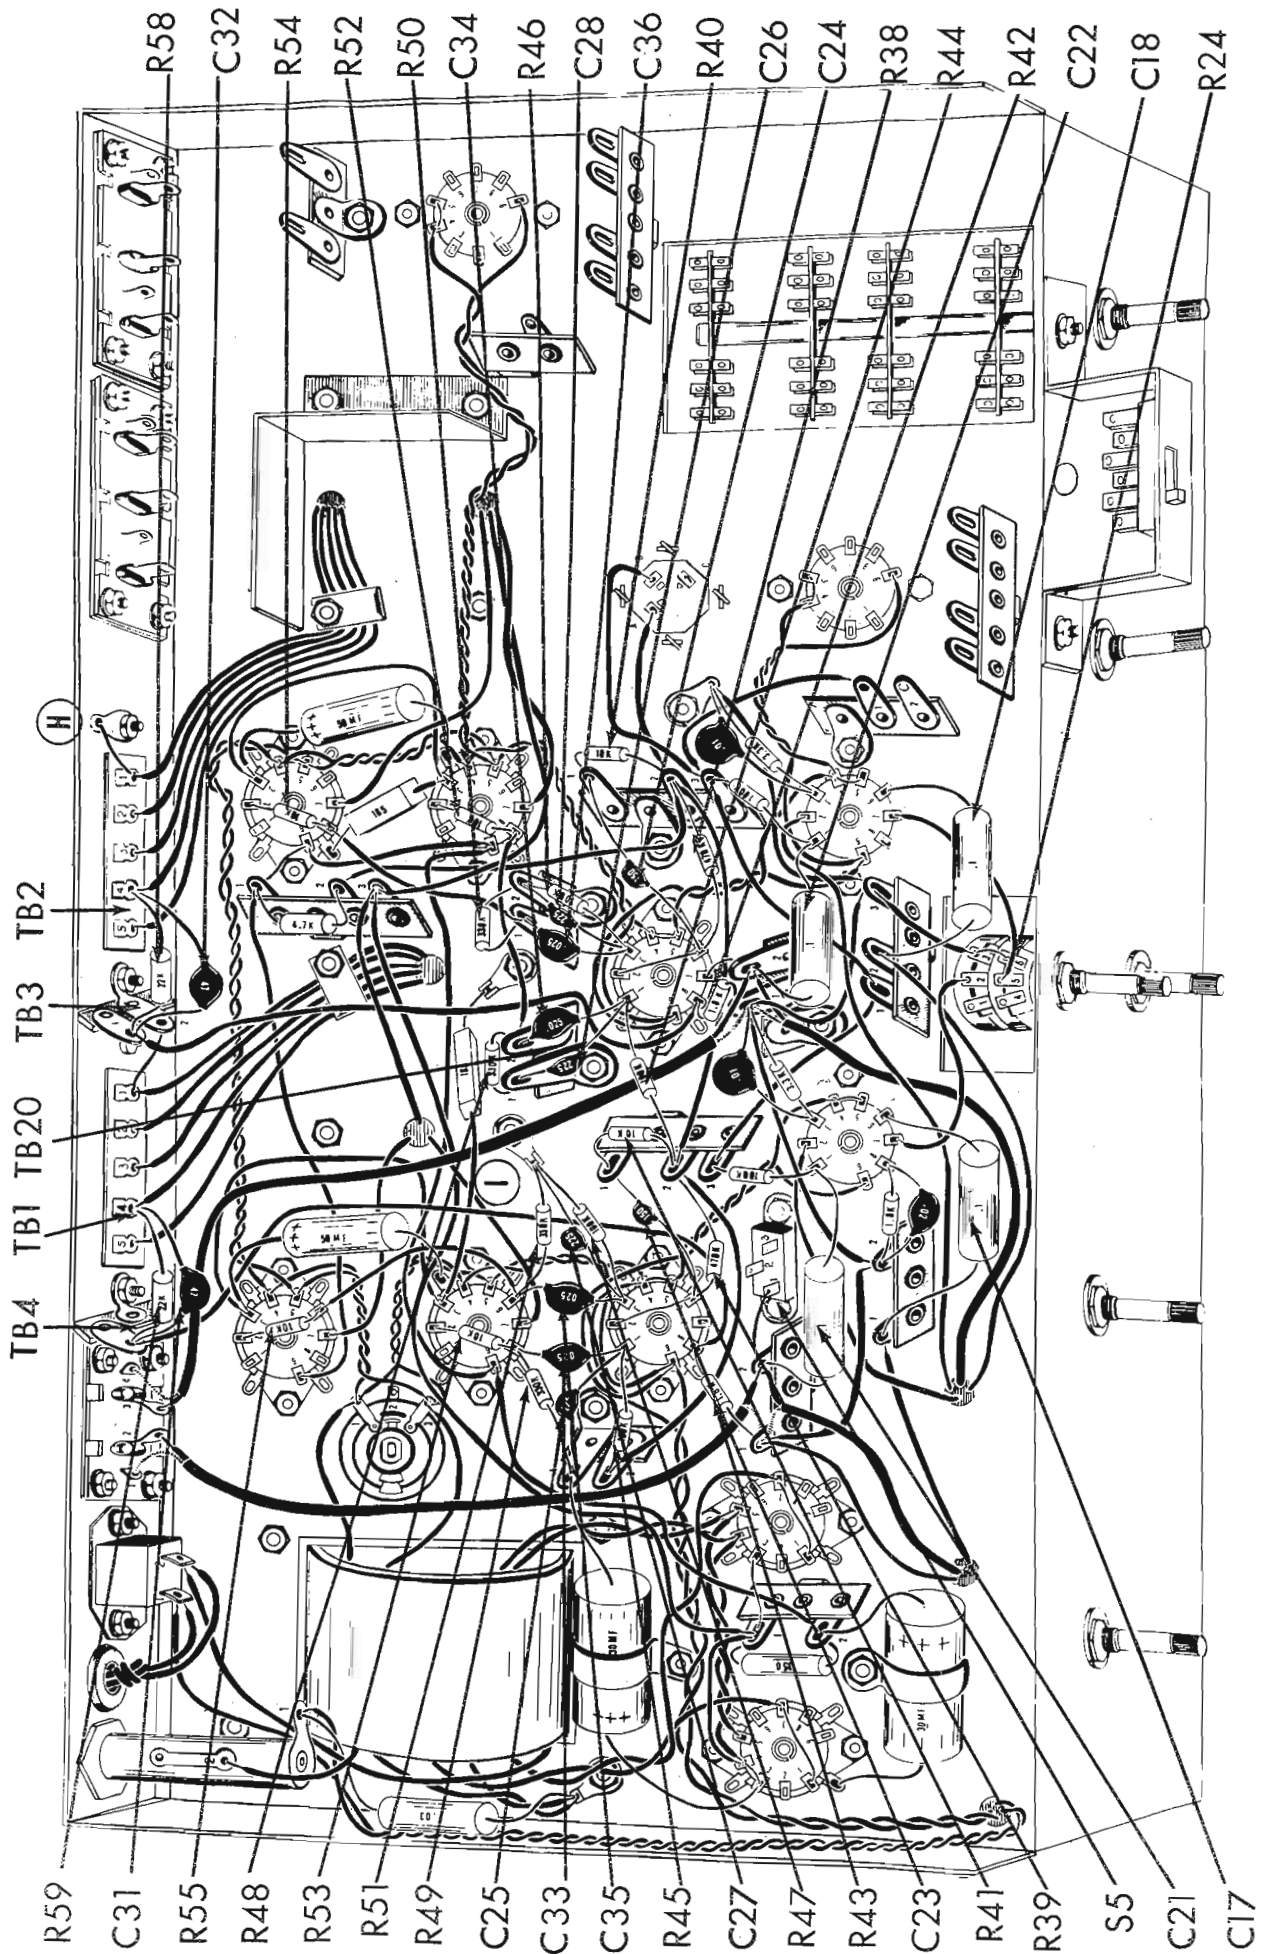

Fig. 9
1. (✓) Fig. 9. Connect a 2 1/2" piece of green wire from R24-5 (S1) to XV4-7 (S1).
2. (✓) Fig. 9. Connect a 9" piece of black wire from XV5-8 (C) to TB4 (C).
3. (✓) Fig. 9. Connect a 9" piece of black wire from XV6-8 (C) to TB3-1 (C).
4. (✓) Fig. 9. Cut all leads on two 47 mmf, 10% disc capacitors, C31 and C32, to 3/4". Connect C32 from TB2-4 (C) to TB3-1 (C) and the other capacitor, C31, from TB1-4 (C) to TB4 (C). Each lead is to be covered with a 1/2" piece of spaghetti.
5. (✓) Fig. 9. Connect a 1" piece of bare wire from TB1-1 (S2) to TB3-2 (S1).
6. (✓) Fig. 9. Connect a 1" piece of bare wire from TB2-1 (S2) to ground lug "H" (S1).
7. (✓) Fig. 9. Cut all leads on the two 22KΩ (red, red, orange, gold) 5% resistors, R58 and R59, to 3/4". Connect R58 from TB2-4 (S3) to TB3-1 (S3) and R59 from TB1-4 (S3) to TB4 (S3). Each lead is to be covered with a 1/2" piece of spaghetti.
8. (✓) Fig. 9. Cut all leads on the six 10KΩ (brown, black, orange, silver) resistors, R40, R41, R52, R53, R54, and R55, to 1/2". Connect R55 from XV8-6 (S2) to XV8-2 (S1). Connect R53 resistor from XV7-8 (C) to XV7-2 (S1). Connect R54 from XV10-8 (S2) to XV10-2 (S1). Connect R52 from XV9-8 (C) to XV9-2 (S1). Connect R41 from TB9-1 (C) to TB9-2 (C). Connect R40 from TB18-1 (C) to TB18-2 (C).
9. (✓) Fig. 9. Connect a 3" piece of grey wire from TB20-2 (C) to XV9-8 (S2).
10. (✓) Fig. 9. Cut all leads on the two 330KΩ (orange, orange, yellow, silver) resistors, R48 and R50 to 1/2". Connect R50 from TB19-2 (C) to TB19-1 (C). Connect R48 from TB20-1 (C) to TB20-2 (C).
11. (✓) Fig. 9. Cut all leads on the two 330KΩ (orange, orange, yellow, silver) resistors, R49 and R51 to 3/4". Connect R49 from TB10-1 (C) to XV7-8 (C). Connect R51 from XV7-6 (C) to ground lug "I" (C).
12. (✓) Fig. 9. Cut all leads on the four .025 mfd (25K or 25,000 mmf) disc capacitors, C33, C34, C35, and C36, to 3/4". Connect C33 from XV5-1 (C) to XV7-8 (S3). Connect C35 from XV5-3 (C) to XV7-6 (S3). Connect C34 from XV6-1 (C) to TB20-2 (S3). Connect C36 from XV6-3 (C) to TB19-1 (S3).
13. (✓) Fig. 9. Cut all leads on the two 100KΩ (brown, black, yellow, gold) 5% resistors, R45 and R46, to 1/2". Connect R45 from XV5-1 (C) to TB10-2 (S2). Connect R46 from XV6-3 (C) to TB19-2 (C).
14. (✓) Fig. 9. Cut all leads on the two 100KΩ (brown, black, yellow, gold) 5% resistors, R44 and R47, to 3/4". Connect R47 from XV5-3 (C) to ground lug "I" (C). Connect R44 from XV6-1 (C) to TB9-2 (C).
15. (✓) Fig. 9. Cut all leads on the two 225 mmf disc capacitors, C25 and C28 to 3/4". Connect C25 from XV5-1 (S3) to TB10-1 (S3). Connect C28 from XV6-3 (S3) to TB19-2 (S3).
16. (✓) Fig. 9. Cut all leads on the two 225 mmf disc capacitors, C26 and C27, to 1". Connect C27 from XV5-3 (S3) to ground lug "I" (S3). Connect C26 from XV6-1 (S3) to TB20-1 (S2).
17. (✓) Fig. 9. Cut all leads on two 1.8KΩ (brown, grey, red, gold) 5% resistors, R42 and R43, to 3/4". Connect R43 from XV5-8 (S2) to TB7-1 (S5). Connect R42 from XV6-8 (S2) to TB21-1 (C).
18. (✓) Fig. 9. Cut all leads on two 470KΩ (yellow, violet, yellow, silver) resistors, R38 and R39, to 3/4". Connect R39 from XV5-6 (C) to TB9-2 (S5). Connect R38 from XV6-6 (C) to TB18-2 (S5).
19. (✓) Fig. 9. Cut all leads on two 150 mmf disc capacitors, C23 and C24, to 1". Connect C23 from XV5-6 (C) to TB9-1 (S2). Connect C24 from XV6-6 (C) to TB18-1 (S2).
20. (✓) Fig. 9. Connect a 1 1/4" piece of bare wire from TB7-2 (C) to S5-1 (S1).
21. (✓) Fig. 9. Connect a 3/4" piece of bare wire from TB21-2 (C) to XV6-7 (S1).
22. (✓) Fig. 9. Connect a 1" piece of bare wire from XV5-2 (S1) to XV5-6 (S3).
23. (✓) Fig. 9. Cut a 1" piece of bare wire from XV6-2 (S1) to XV6-6 (S3).
24. (✓) Fig. 9. Cut all leads on four .1 mfd (brown, black, yellow, yellow) molded capacitors, C17, C18, C21 and C22, to 3/4". Cover each lead with a 1/2" piece of spaghetti. Connect C17 from XV3-6 (C) to TB8-1 (S2). Connect C18 from XV4-6 (C) to TB11-2 (S2). Connect C21 from XV3-1 (C) to TB7-2 (S4). Connect C22 from XV4-1 (C) to TB21-2 (C). Dress the leads as shown and push all capacitors flat against the chassis.